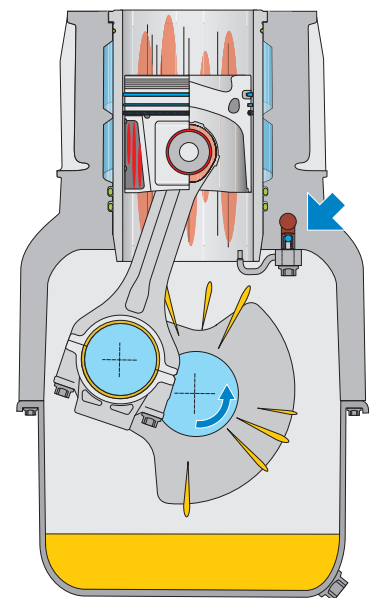

Fig. 1: Inadequate lubrication during excessive idle mode
- Not enough oil emerges from the engine bearings. With the result that too little splash oil is sprayed onto the cylinder wall. Dirt and abrasion are not washed off, causing increased wear as early as the running-in phase (Fig. 1).
- The pressure valve (arrow in Fig. 1) for the piston spray cooling does not open at idling speed. The piston is not cooled and a lack of oil droplets leads to inadequate lubrication at the piston pin and the connecting rod bearing bush.